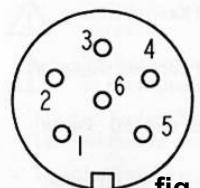

fig. 49
- Hold select key (36) depressed until „Vol ml" LED and LED „Pause sec/min/h" LED light the same time.
- Interval metering is controlled with the „Start Stop" key (32) or via the interface.
- After having hit the „Start Stop" key (32) the metered volume is displayed (41), rising from zero to the current value, or a pause interval rising from zero the value set before. The respective LED is going to flash.
9.3.8. Adjust backstroke for metering by volume mode (figs. 49)